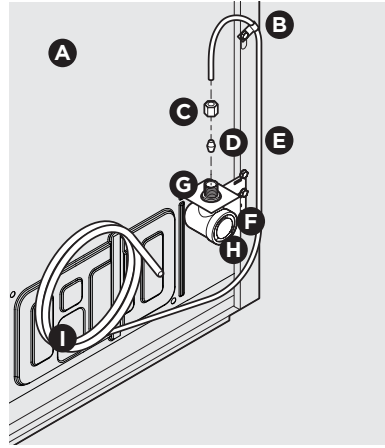
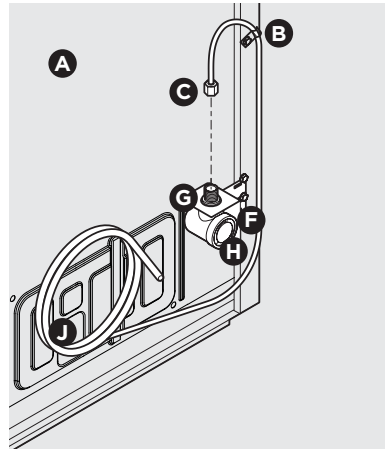

Figure 1
Figure 2
4. If you use **copper tubing** - Slide the brass compression nut, and then the ferrule (sleeve) onto the water supply line. Push the water supply line into the water valve inlet as far as it will go (1/4"/6,4 mm). Slide the ferrule (sleeve) into the valve inlet and finger tighten the compression nut onto the valve. Tighten another half turn with a wrench; DO NOT overtighten. See Figure 1.
If you use **braided flexible stainless steel tubing** - The nut is already assembled on the tubing. Slide the nut onto the valve inlet and finger tighten the nut onto valve. Tighten another half turn with a wrench; DO NOT overtighten. See Figure 2.
B	Steel Clamp (Fig. 1: 1/4"; Fig. 2: 1/2")